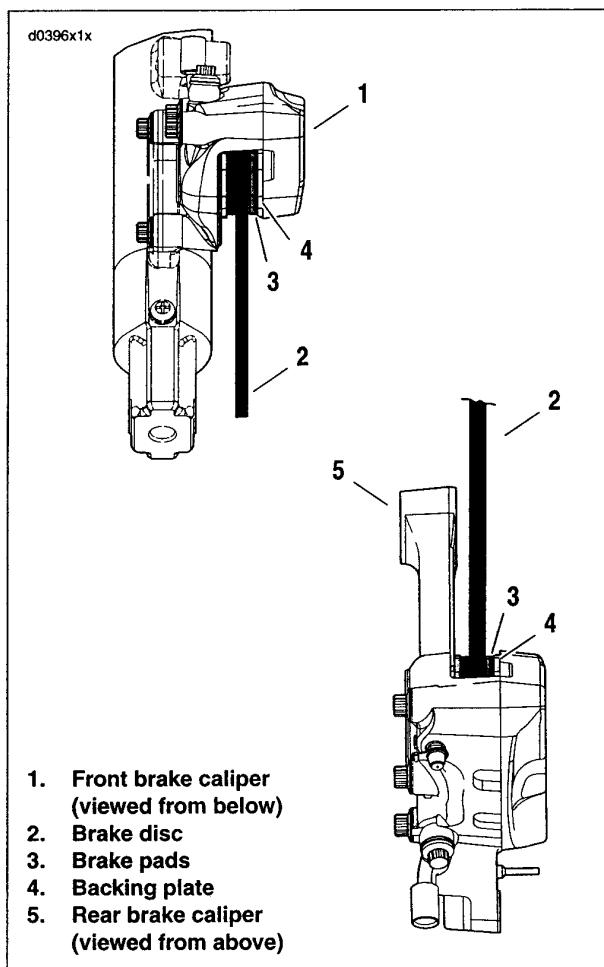

Figure 1-15. Brake Pad Inspection
See Figure 1-15. Replace brake pads (3) if brake pad friction material on either the front or rear caliper is worn to 0.04 in. (1.02 mm) or less above the backing plate (4). Always replace both pads in a caliper as a set. See BRAKE PAD REPLACEMENT below.